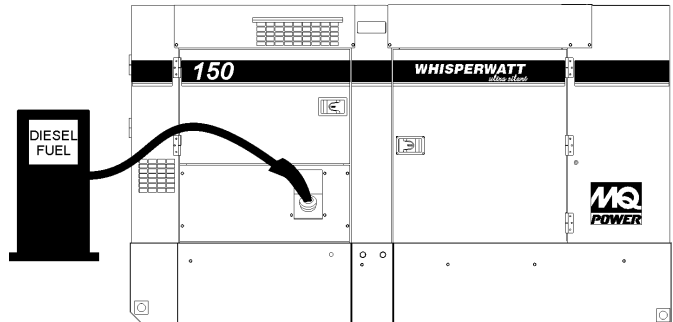

Figure 35. Fueling the Generator
2. Remove fuel cap (internal fuel tank) and fill tank as shown in Figure 35.